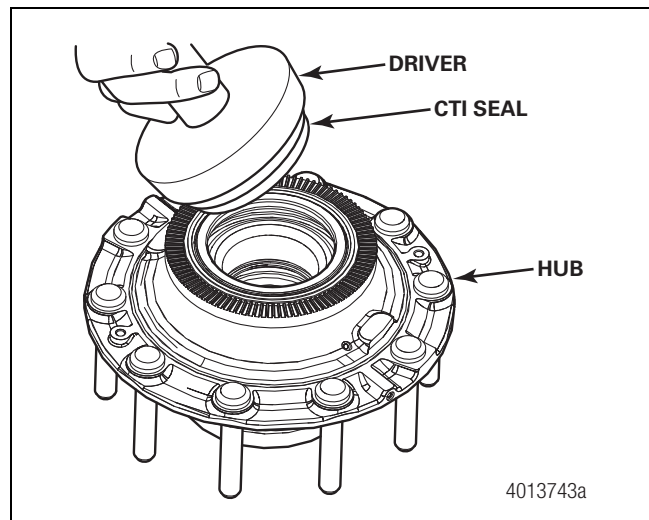
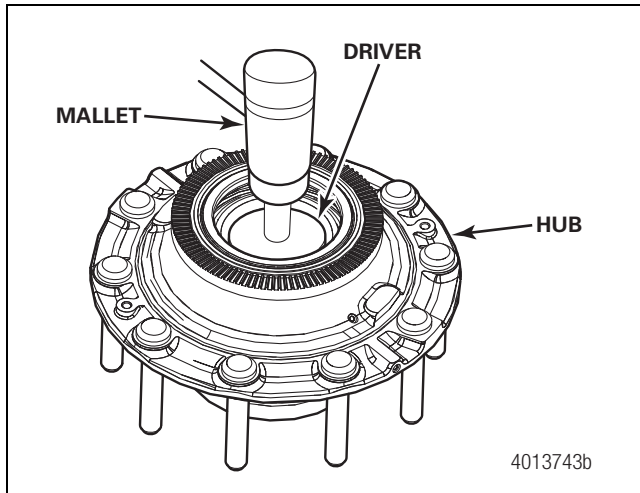

Figure 16.3
Figure 16.4
3. Place the inner CTI seal and driver squarely into the hub. The seal will stay fitted to the driver. Use a mallet to install the inner CTI seal. Figure 16.3 and Figure 16.4.